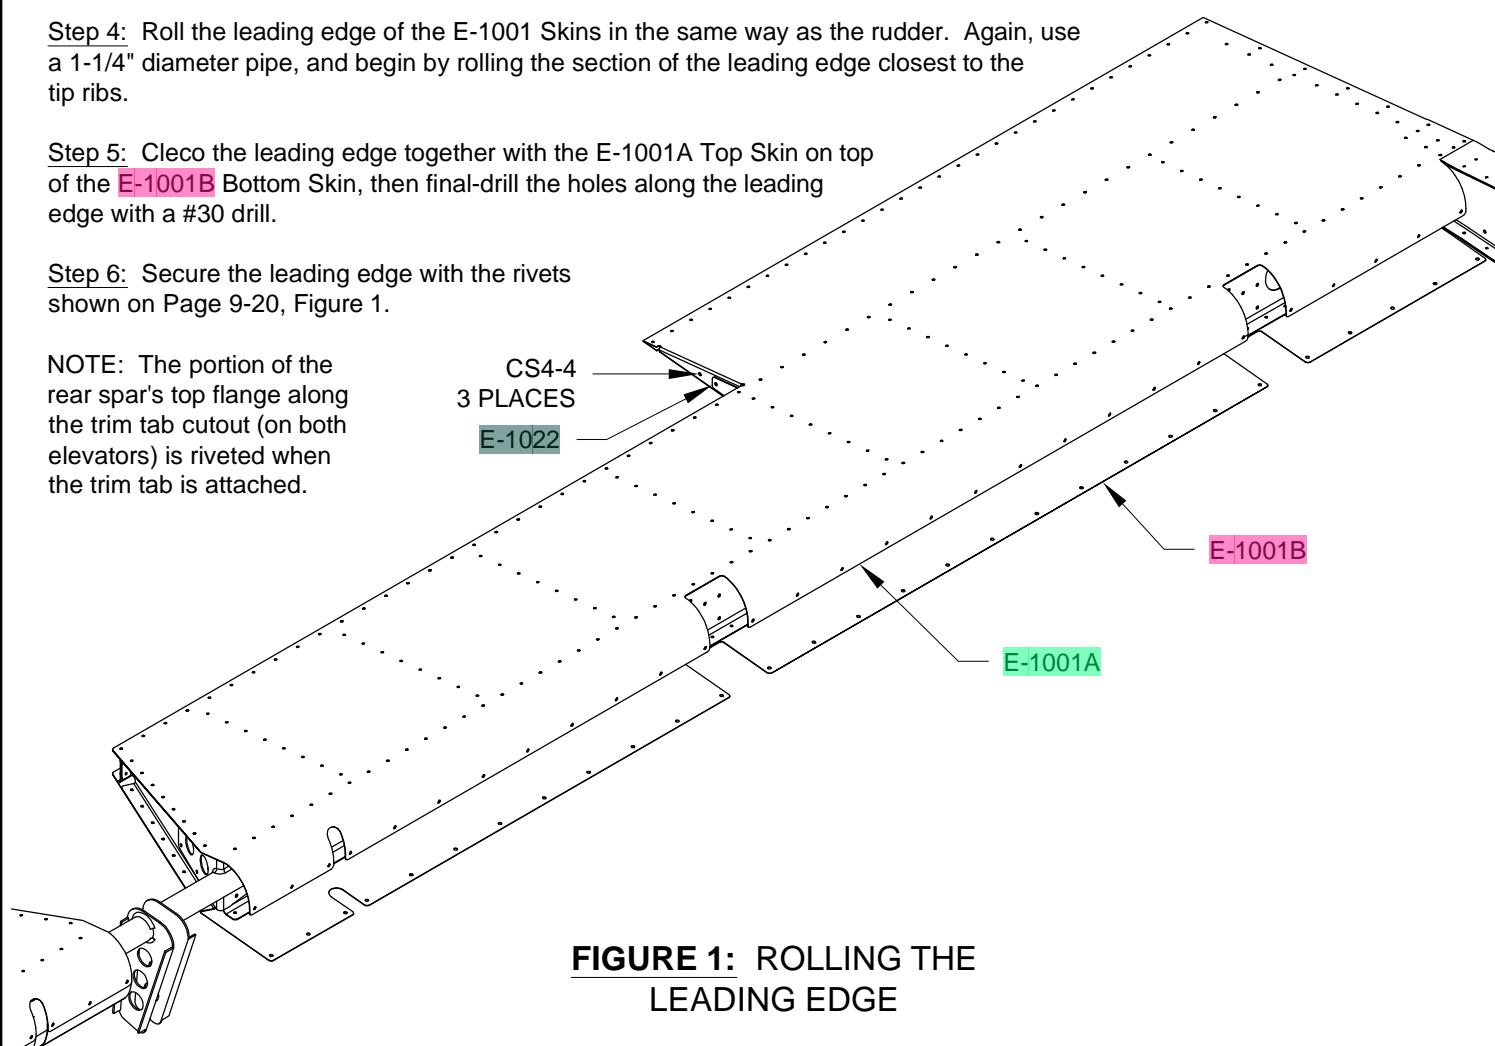

FIGURE 1: ROLLING THE LEADING EDGE
Step 2: Rivet the **E-1022** Shear Clip to the close out tabs in the E-1001 Skins using the rivets shown in Figure 1. Install a blind rivet in the remaining hole in the close out tabs aft of the shear clip.
Step 6: Secure the leading edge with the rivets shown on Page 9-20, Figure 1.